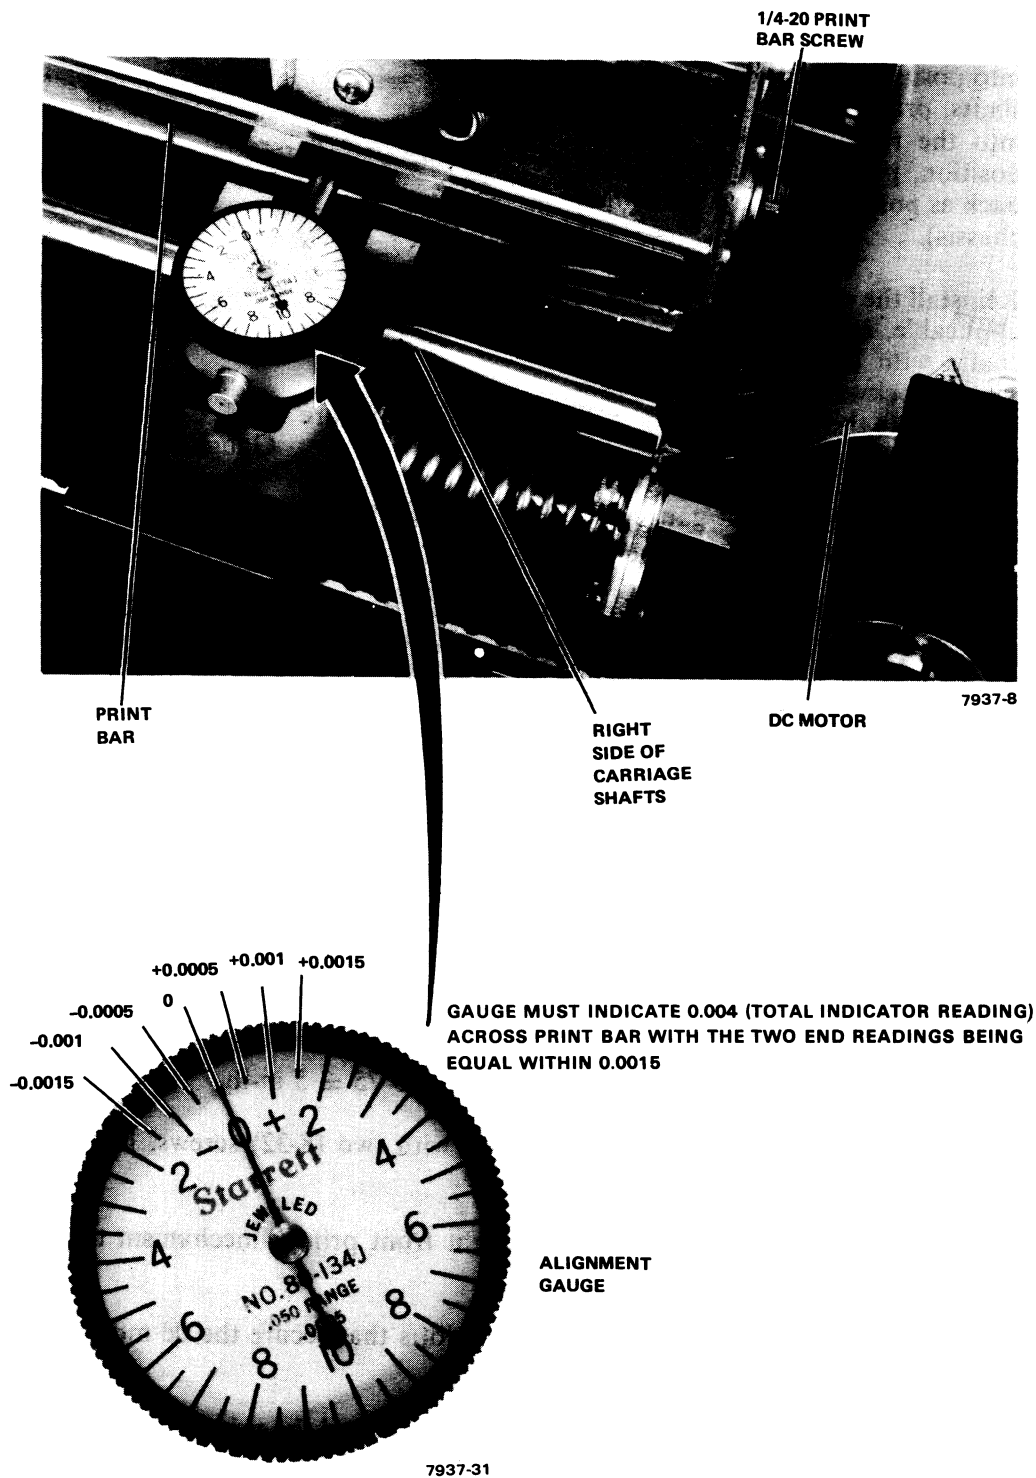

Figure 7-34 Print Bar Alignment
9. Remove the 10-32 screw connecting the right front of the printer mechanism to the cabinet base (Figure 7-34).
4. Remove the calibrate block from the front of the gauge and set the gauge on the extreme right of the carriage shafts (Figure 7-34).